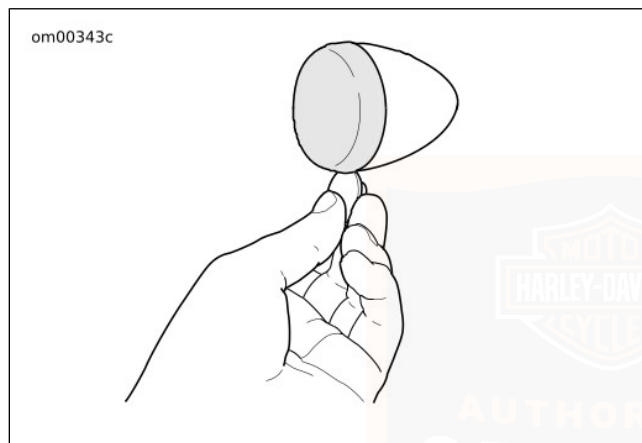

Figure 102. Remove Lens
1. See Figure 102. Insert coin in notch. Carefully twist until the lens cap pops out of the lamp housing.